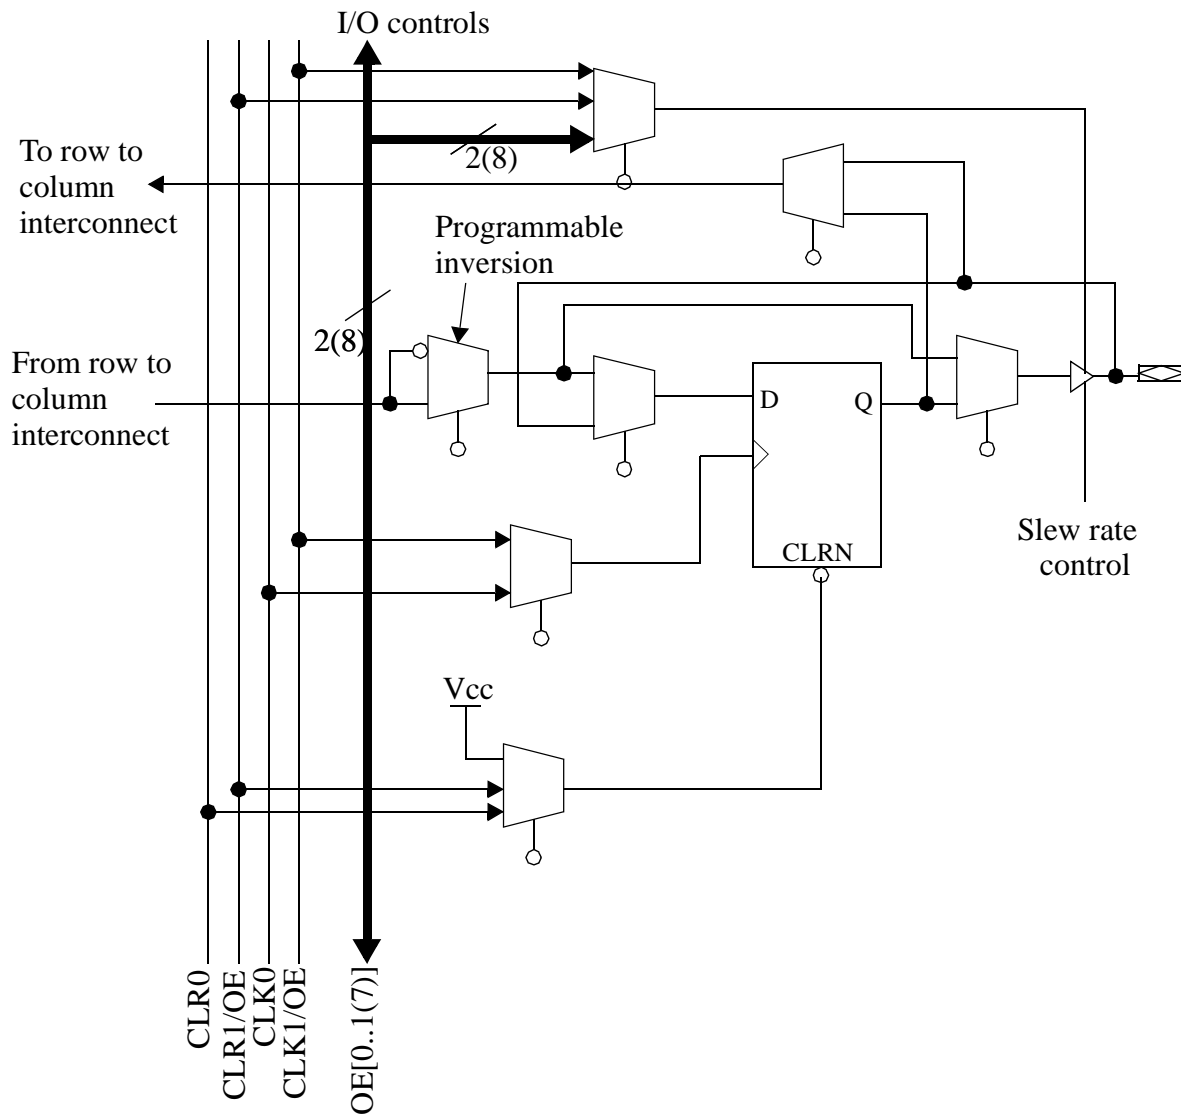

Figure 18 : I/O element (IOE) for a typical Altera EPLD.
- The Input-Output Elements (IOEs) themselves are a reasonably complex circuit. They can be used for input, output or bidirectional I/O (See Figure 18).